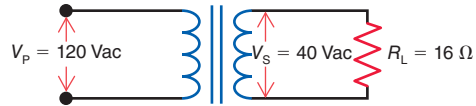

Figure 18-31
- 18.16** In Fig. 18-31, solve for